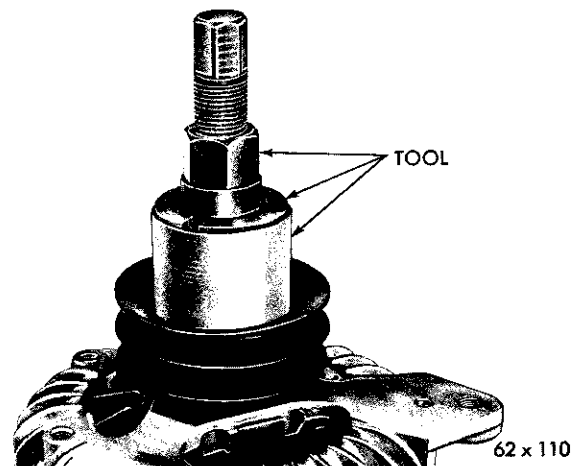

Fig. 25—Removing Pulley
- (6) Carefully apply pressure with the tool pressure screw until the support tool rectifier end shield and remover pin and remover adapter are in alignment then press the rectifier out of the end shield or heat sink.
- (7) The pulley is an interference fit on the rotor shaft. Remove the pulley with Puller Tool C-3615 or C-3934 and special adapters (Fig. 25).